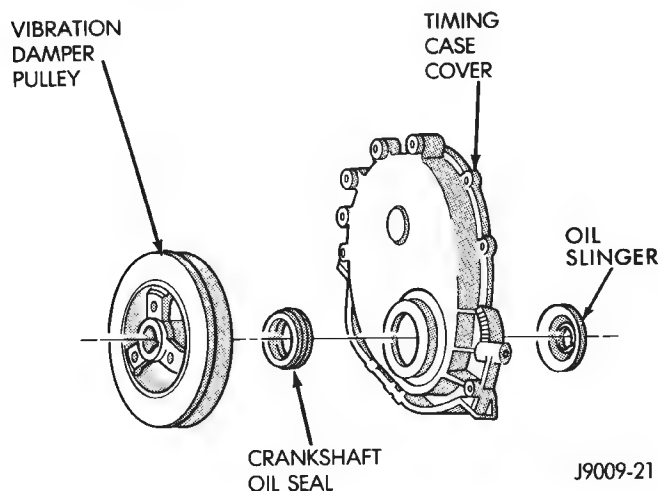

Fig. 4 Timing Case Cover Components
- (1) Disconnect negative cable from battery.
- (2) Remove the vibration damper (Fig. 4).
- (3) Remove the fan and hub assembly and remove the fan shroud.
- (4) Remove the accessory drive brackets that are attached to the timing case cover.
- (5) Remove the A/C compressor (if equipped) and generator bracket assembly from the engine cylinder head and move to one side.
- (6) Remove the oil pan-to-timing case cover bolts and timing case cover-to-cylinder block bolts.
- (7) Remove the timing case cover and gasket from the engine.
- (8) Pry the crankshaft oil seal from the front of the timing case cover (Fig. 4).